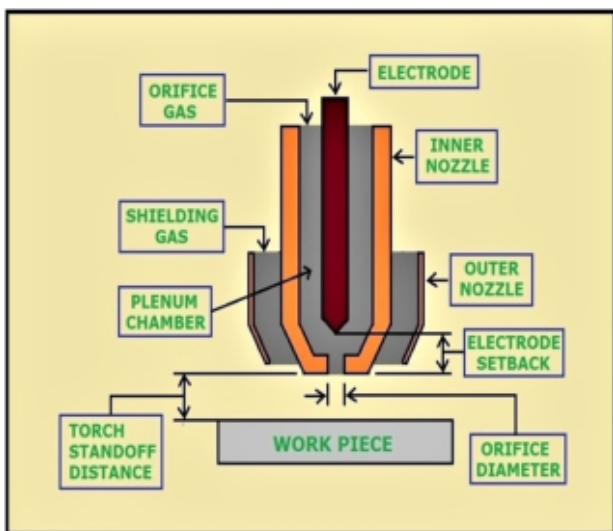

Figure 1
The welding torch used in Plasma Arc Welding (PAW) contains two nozzles an inner nozzle for orifice gas and an outer nozzle for shielding gas (Fig. 1).
**Electrode Setback:** The distance between the tip of the electrode and the face of the constricting nozzle is known as electrode setback (see Figure 1).
**Torch Standoff Distance:** The distance between the outer face of the constricting nozzle and the workpiece is known as the torch standoff distance (see Figure 1).
**Plenum or Plenum Chamber:** The space between the inside wall of the constricting nozzle and the electrode is known as the plenum or plenum chamber (see Figure 1).